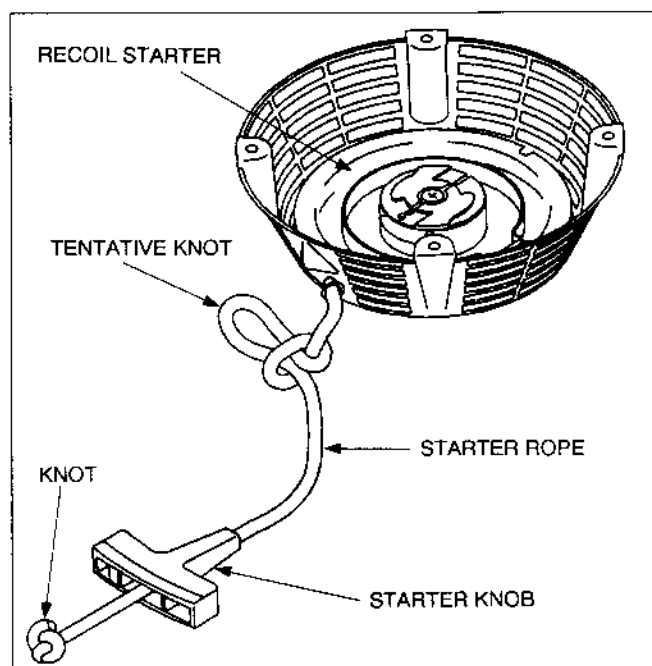

Fig. 69
- (1) Remove the recoil starter from engine.
- (2) Pull the starter knob to draw out the starter rope by about 30cm and tie a tentative knot as show in Fig. 69
- (3) Untie the knot inside the knob to remove the knob.